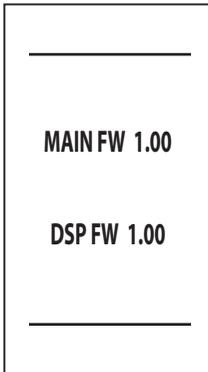

fig. 7- Turning on / Software version
- During the first 5 seconds the display shows the software version of the board and display (fig. 7).